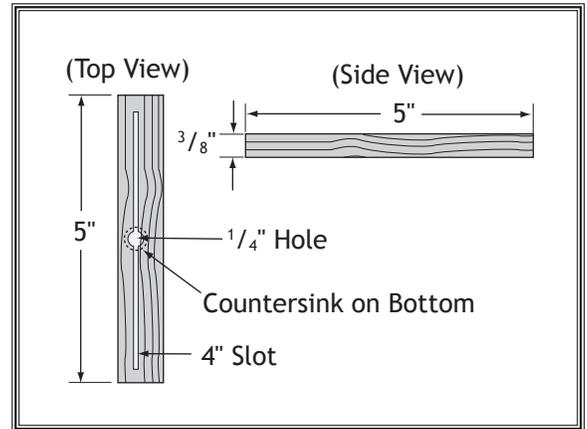

Figure 84. Miter bar pattern.
5. Cut a miter bar approximately 5" long that will fit in table miter slot, as shown in **Figure 84**.